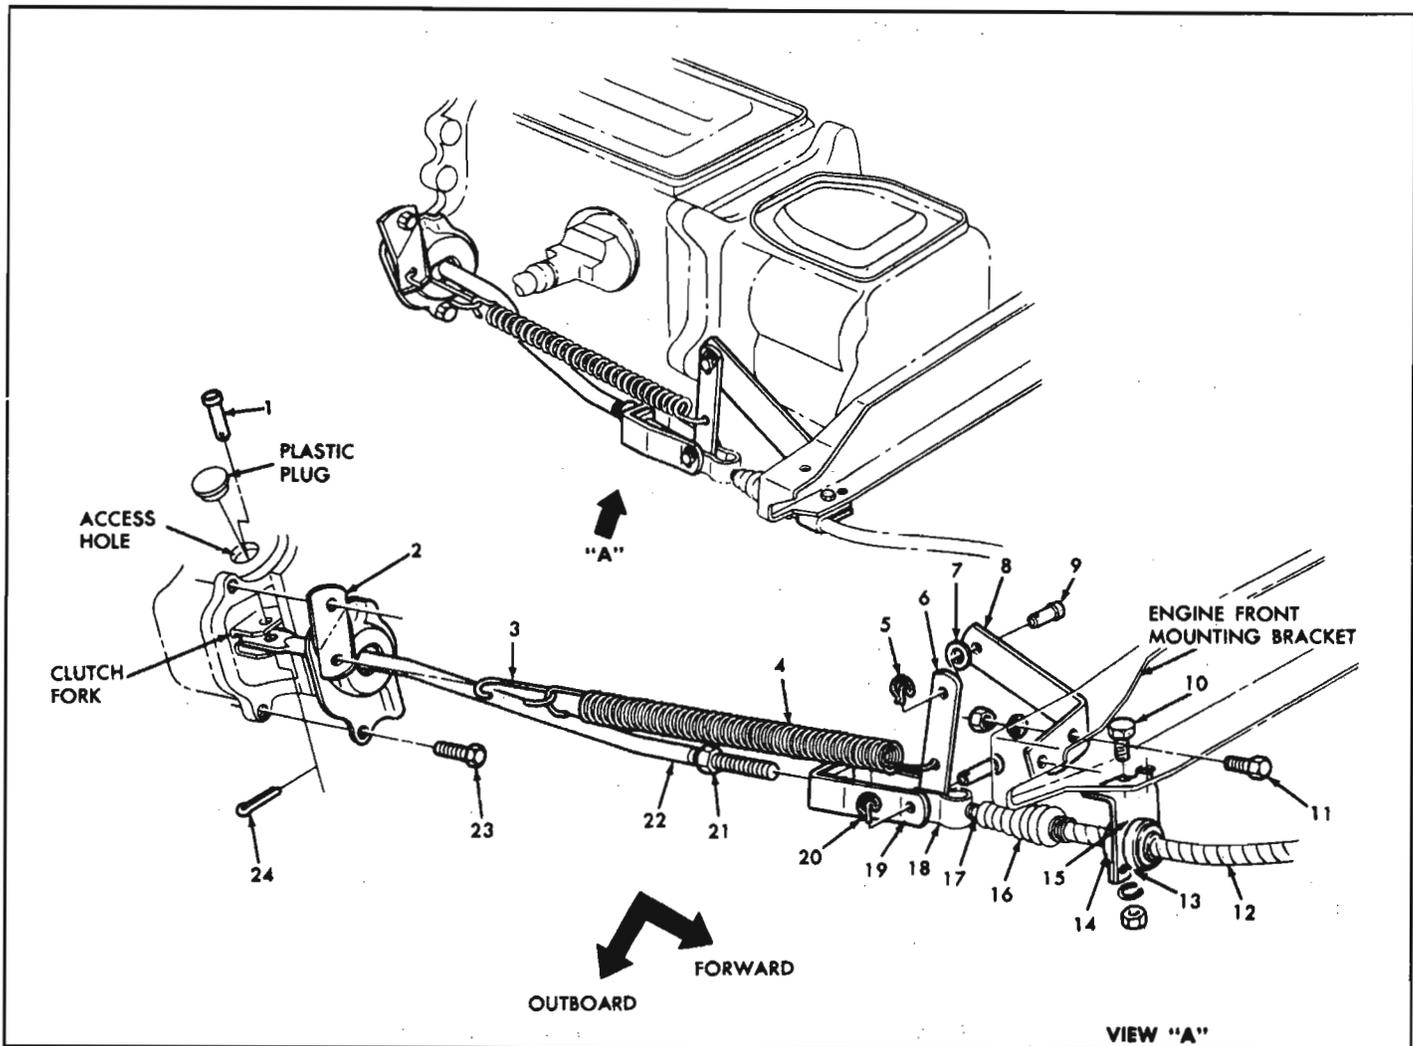

Fig. 6B-12—Clutch Linkage
2. Disconnect rear clutch return spring (4).
**NOTE:** Front clutch return spring is to remain operative in order that pedal bumper is in contact with toe board (fig. 6B-13).
3. Remove retainer clip (20), clevis pin and flat washer from clutch control idler lever, and remove rear cable clevis (18).
4. Allow clutch fork pull rod idler lever (22) to hang free. (Use as a guide to maintain correct line of action of cable clevis.)
6. Manually pull the clutch fork pull rod (22) (fig. 6B-12) until slack is taken up at clutch fork. (The clutch release bearing touching clutch diaphragm fingers.)
7. With the cable clevis held in position (step 5), and with pull rod (22) in position described in Step 6, adjust pull rod clevis (19) to align holes in both clevis.
8. With this position of the pull rod clevis (22) established, unscrew clevis (22)  $3\frac{1}{2}$  turns, lengthening rod by  $\frac{5}{32}$ ".
9. Tighten pull rod clevis jam nut (21). Line up holes in cable clevis, pull rod clevis and clutch fork pull rod idler lever (6). Insert clevis pin and retainer clip.